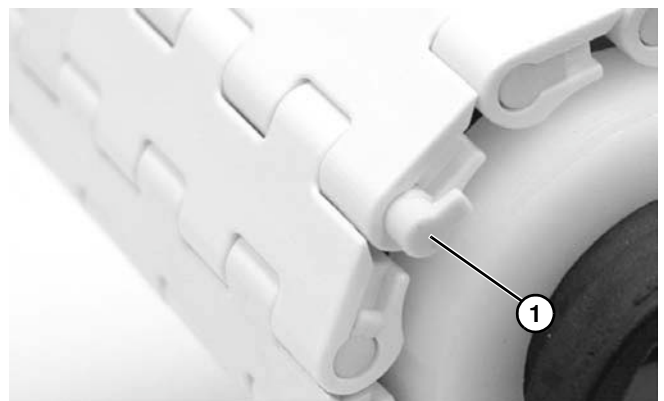

Figure 40
5. Insert rod retaining end caps (**Figure 40, item 1**) on both sides of belt.